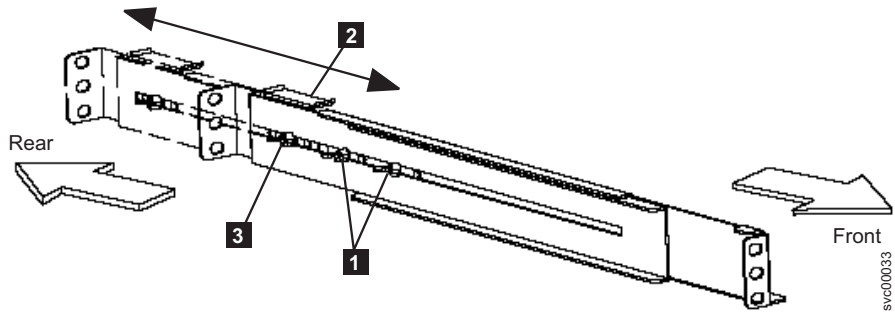

Figure 26. Adjusting the rail depth on the 2145 UPS-1U
3. Loosen the assembly wing nuts (see **1** in Figure 26 on page 51) on both rail assemblies and adjust the rail size to the depth of your rack.
4. Position the rear, hold-down bracket **2** towards the end of the rail assemblies and tighten the wing nut **3**. See Figure 26.